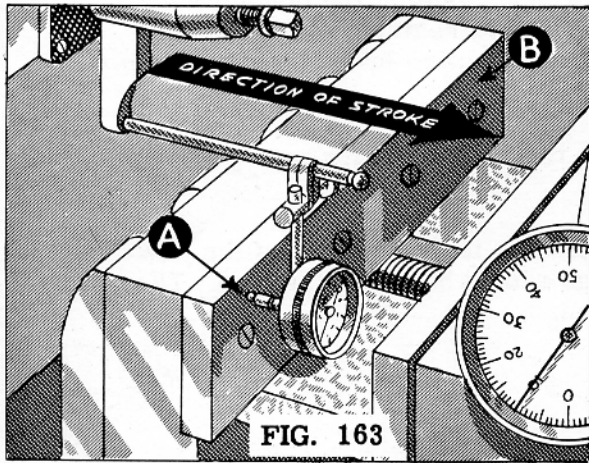

FIG. 163
4. Clamp the assembled indicator in the tool post (Fig. 163) or to the shank of the tool holder.
6. Arrange the indicator near the end of the jaw with the contact point forward, but not touching, the face of the fixed jaw (Fig. 163).
7. Adjust the contact point against the face of the jaw by means of the clamp which holds the indicator to the tool holder. Have the pointer register about ten one-thousandths of an inch on the dial as shown at (A), Fig. 163.